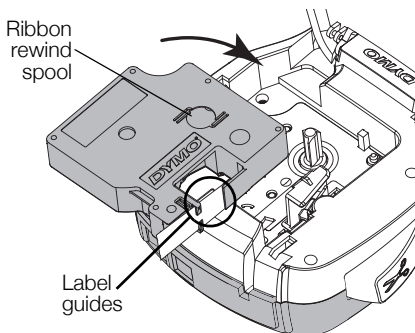

Figure 3
- 2 Make sure the tape and ribbon are taut across the mouth of the cassette and that the tape passes between the label guides. See Figure 3.
- 3 Insert the cassette with the label facing out and positioned between the label guides. See Figure 3.